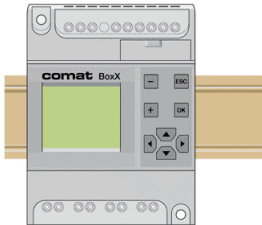

Fig. 2.1
1. Use a standard DIN rail for installation of Comat BoxX as shown in Fig. 2.1.